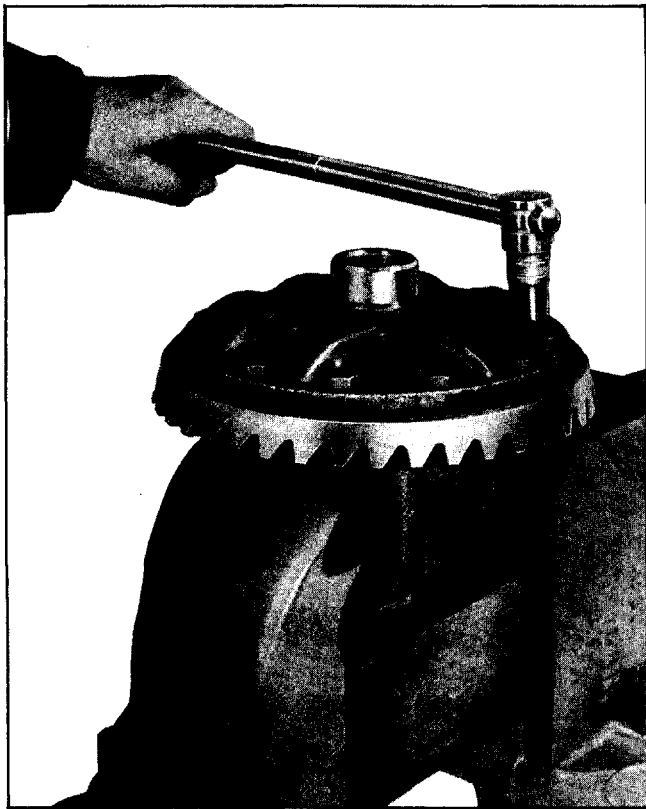

Fig. 4-45 Removing Ring Gear From Case
6. Remove ring gear. **NOTE:** If case is clamped in vise (Fig. 4-45), it should be positioned so jaws of vise are at  $90^{\circ}$  to pinion shaft holes.